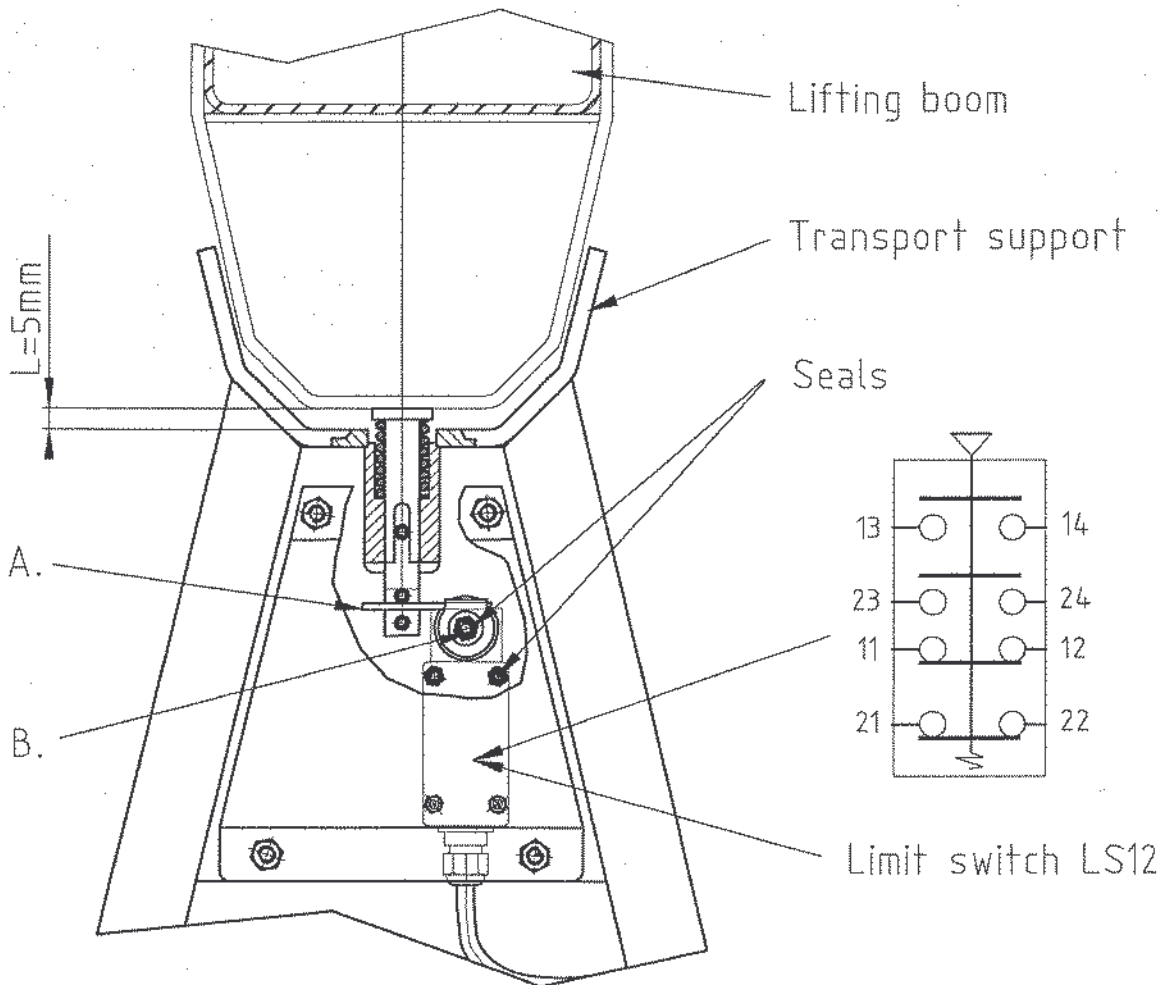

Figure 17.-1
1. Operation: Booms on the transport support, points 11-12 open and prevent the use of the booms when the outriggers are up, refer to figure 17.-1. Points 13-14 close and allow driving/steering and the use of outriggers. Points 23-24 close preventing the use of the telescope.
2. Adjustment: Points 11-12 of limit switch LS12, for example, are adjusted to open by adjusting lever A with nut B when the lifting boom is off the transport support 5 mm, refer to figure 17.-1 distance L.
4. Seal the adjustments with sealing paint in accordance with figure 17.-1.